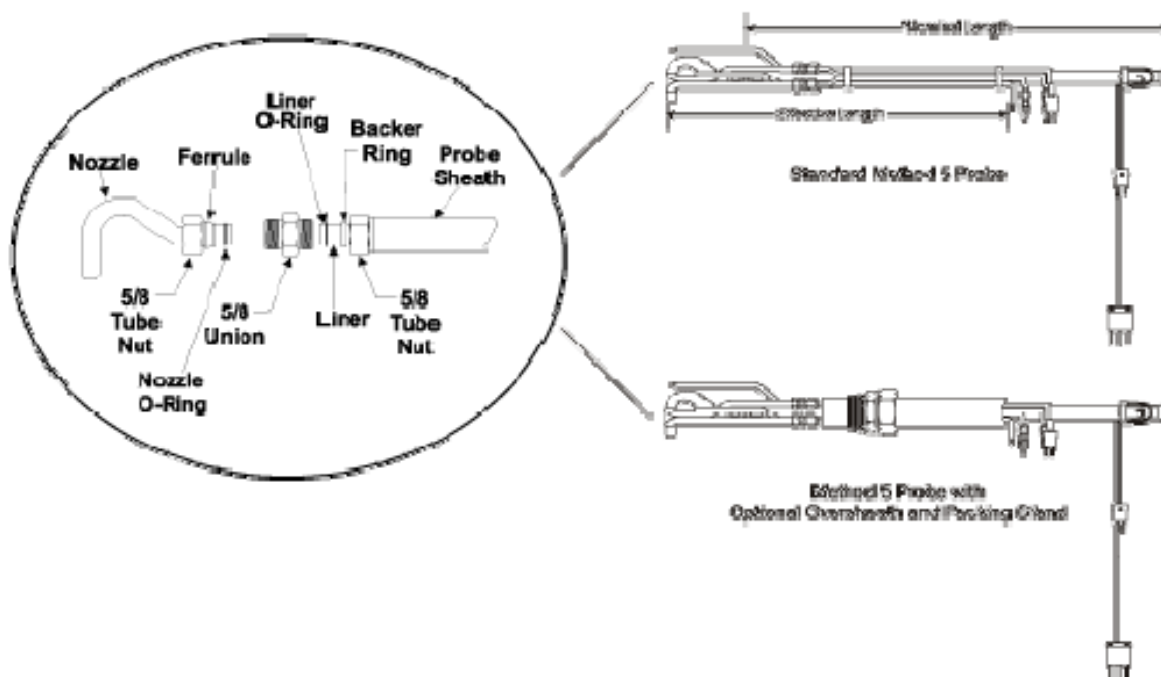

Figure 8 – Diagrams of Probes and Probe Assembly
Figure 8 illustrates a standard Probe Assembly and a Probe Assembly with the optional 50.8mm (2in.) Oversheath and Packing Gland. The figure also details the connection between the nozzle and probe using fittings from the Small Parts Kit. Probe lengths vary from 0.914-m (3-ft) to 4.877-m (16-ft) nominal length.
**Small Parts Kit** Apex Instruments Small Parts Kit (PK-SP) includes 15.9mm (5/8in) union, nut and ferrules along with o-rings and backer ring as shown in Figure 8 – Figure 8.